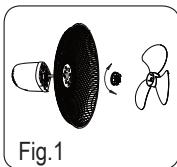

Fig.1
3. Twist the plastic nut counterclockwise. Set the rear protective guard in the correct position (handle upwards) and tighten the plastic nut. (Fig. 1).